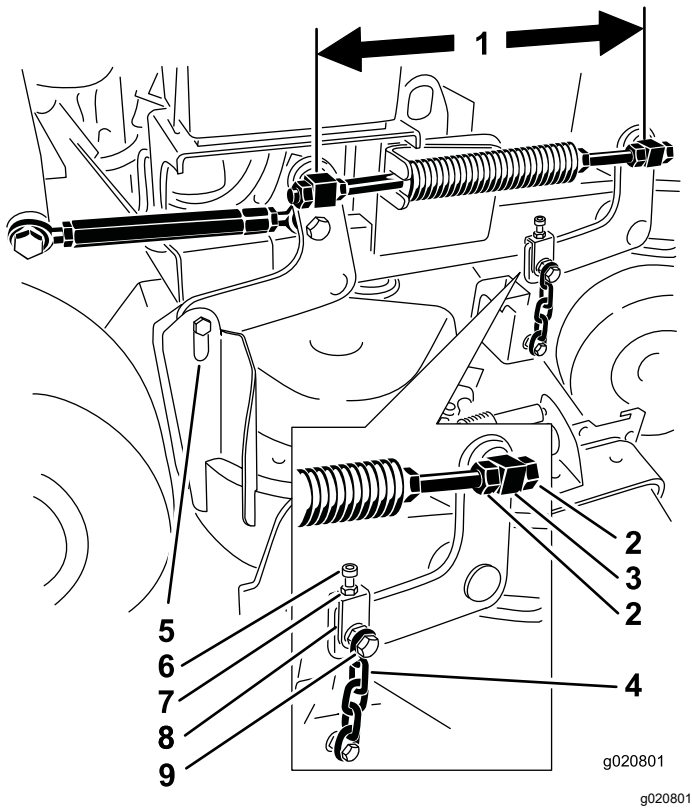

Figure 78
1. Check the distance between the swivels, measuring at the center of the swivels (center-to-center length) on each threaded rod (Figure 78).
- Loosen the jam nuts at the **front** swivel (Figure 78).
- Tighten the jam nuts at the **front** swivel (Figure 78).
- If adjustment is needed, loosen the upper chain bolt (Figure 78).
- Loosen the jam nuts at the right and left front swivels (Figure 78).
- Tighten the jam nuts at the right and left front swivels (Figure 78).
4. Loosen the jam nuts at the left, front swivel (Figure 78).
6. Tighten the jam nuts at the left front swivel (Figure 78).
5. Loosen the upper chain bolts (Figure 78).
6. Loosen the jam nuts on each yoke (Figure 78).
8. Tighten the jam nuts and upper chain bolts (Figure 78).